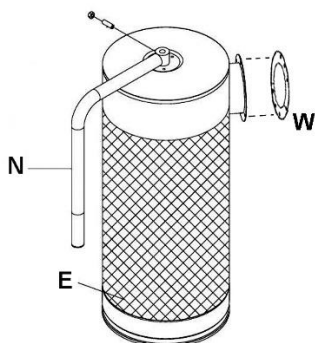

Figure 8
9. Assemble handle (N) to canister filter (E) using set screw and nut. See Figure 8.